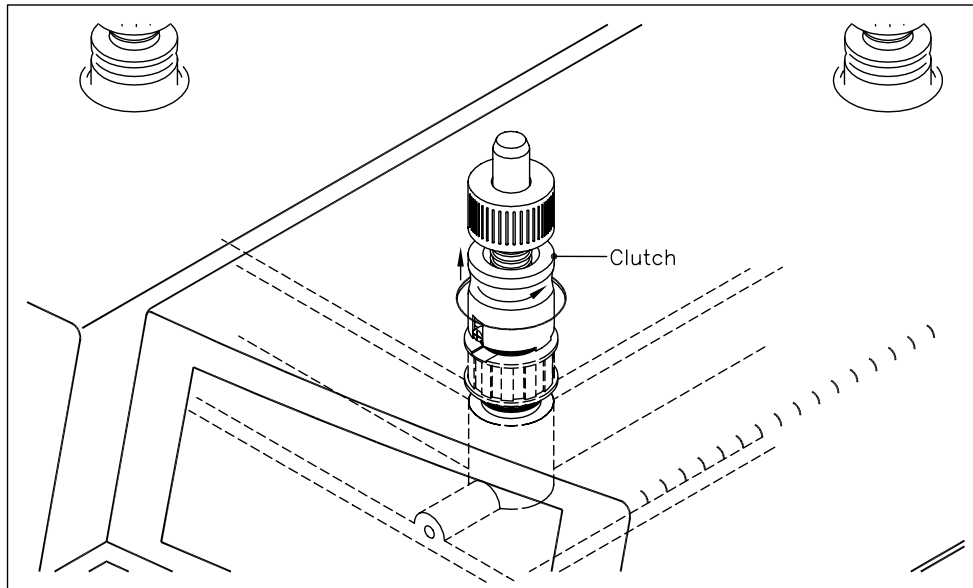

Figure 8-2: Disengaging the Clutch
2. Disengage the clutch by lifting it off the belt pulley and turning 90°. Turn each spindle by hand, as shown in Figure 8-2 and check for irregular rotation or sticking.